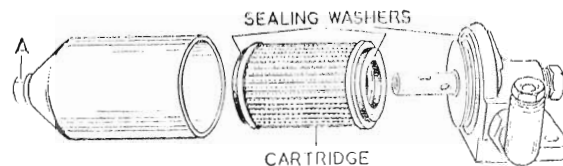

FIGURE 9. The external oil filter.
Unscrew the bolt (A) Fig. 9, to dismantle the filter unit, at the same time supporting the bowl to avoid possible damage. Extract the filter cartridge, making sure that the sealing washers are retained, and if it is badly contaminated, it must be renewed. If it is only lightly contaminated, wash in gasoline (petrol) together with the filter bowl body and other parts and dry out. When reassembling, examine the sealing rings, replacing if they show any sign of deterioration.